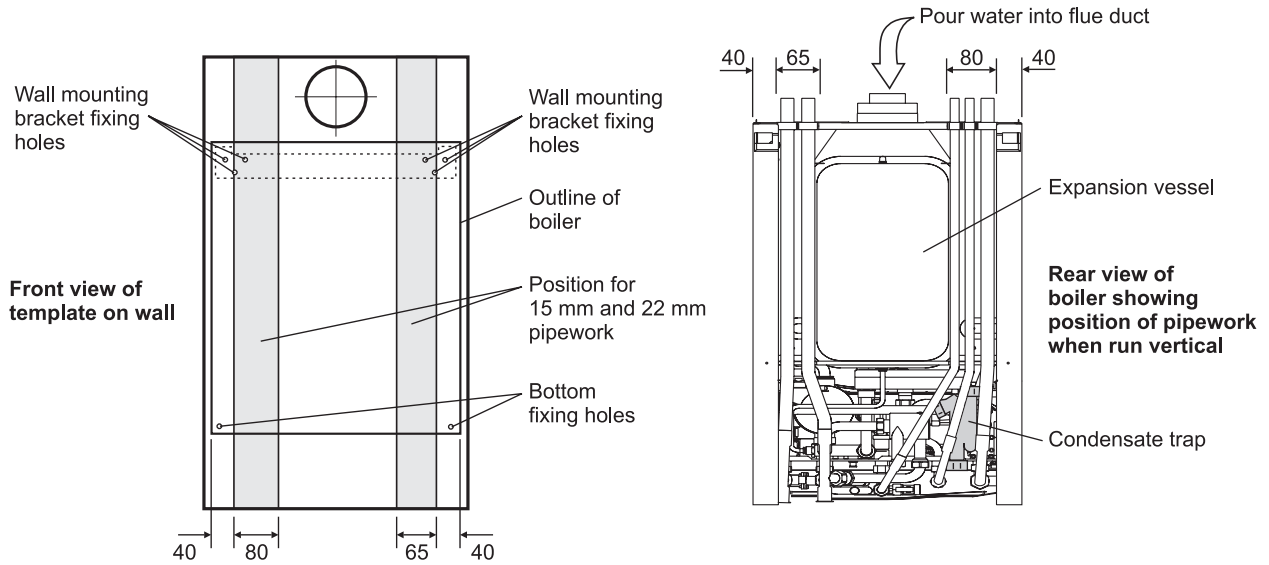

Fig. 12
- Top pipe connections** - Perform the pipework at the back of the boiler before hanging the boiler, see Fig. 12, and secure in the clips provided.
Pour at least 0.5 litre of water into the flue duct, as shown in Fig. 12, and check the condensate discharge pipe for soundness.